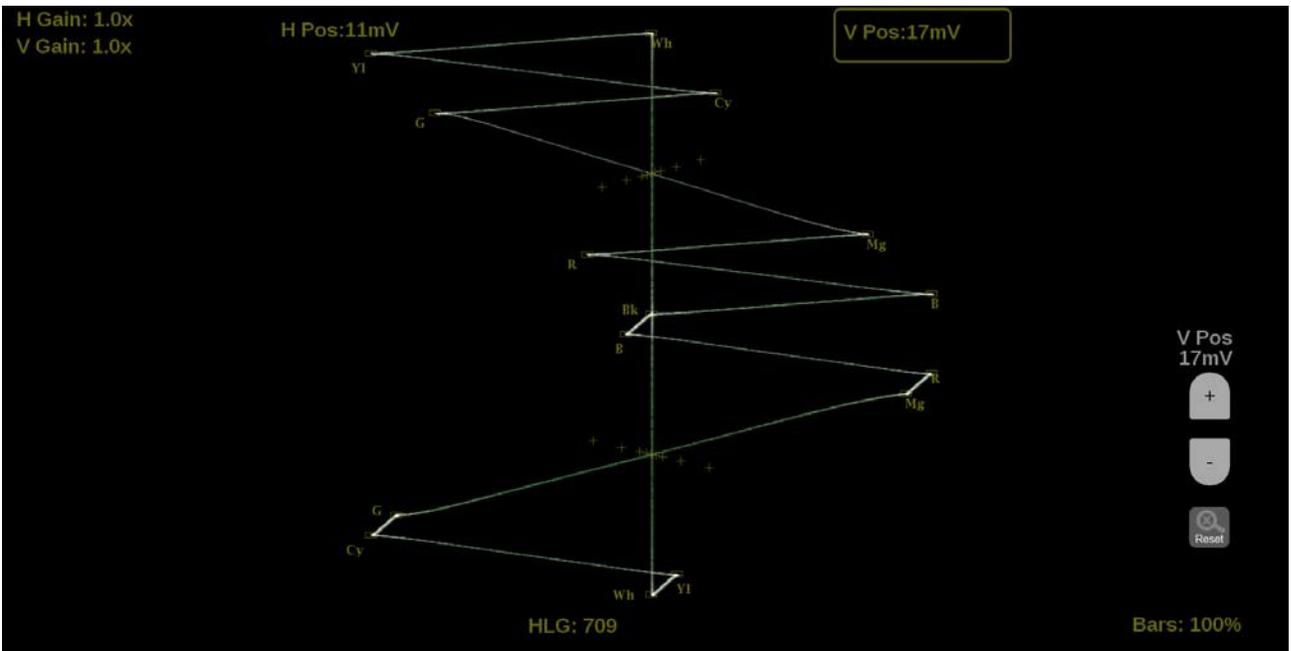

Figure 212: Lightning on-screen tools – vertical position
2. Select the **V Pos** button to allow adjustment of the vertical trace. (See Figure 212.)